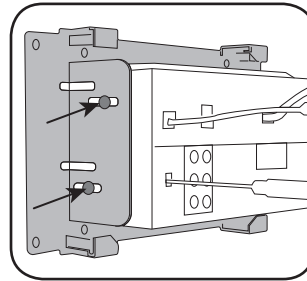

Fig. 2.1
1. Unbox the aftermarket radio. Install the metal bracket provided with the VW1 kit to the aftermarket radio using the screws supplied with the aftermarket radio. (Fig. 2.1)